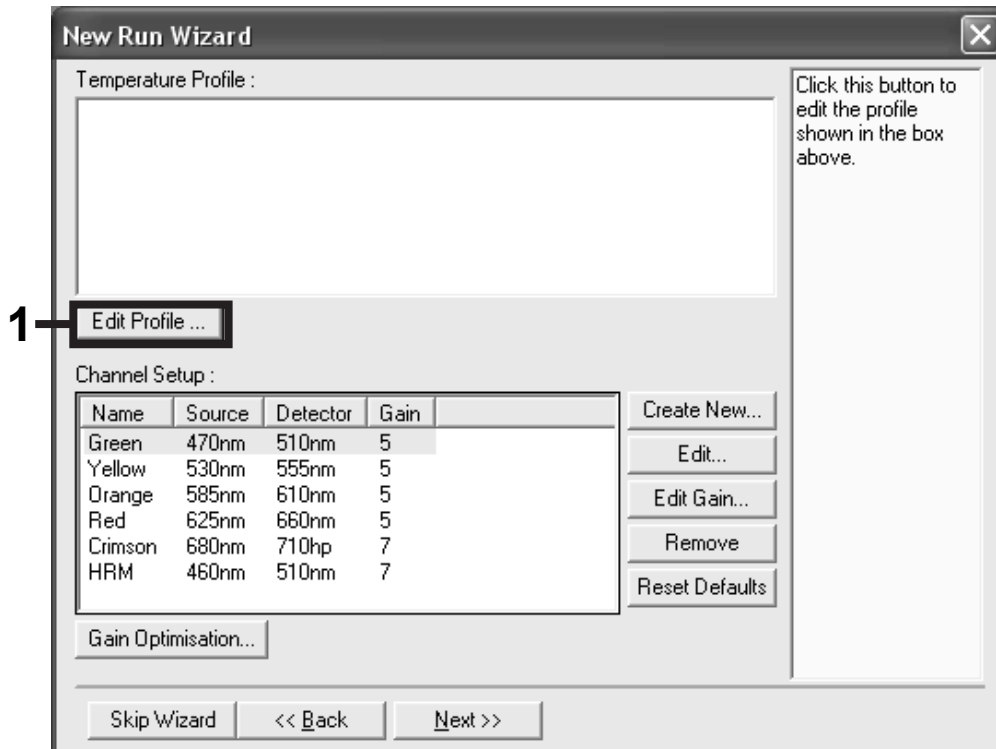

Figure 3. Editing the profile.
- Click the “Edit Profile” button in the next “New Run Wizard” dialog box (Figure 3) and program the temperature profile according to the information in the following steps.